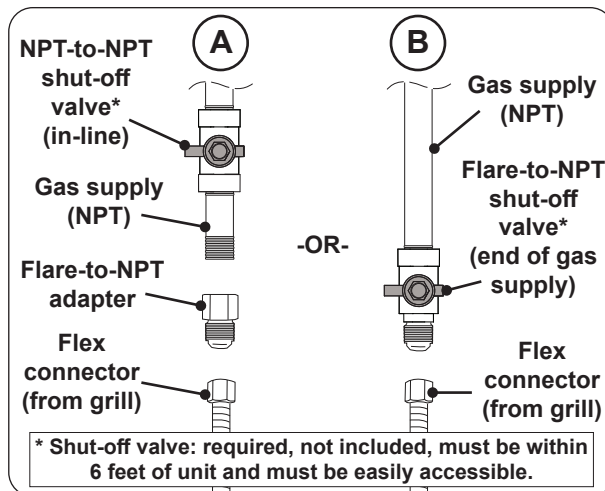

Fig. 26-1 Connecting to a gas line
- Install the supplied flare-to-NPT adapter to the gas supply (NPT) using a pipe joint compound resistant to all gasses (see Fig. 26-1, A). Tighten securely.
- Connect the flex connector to the adapter (see Fig. 26-1, A). Tighten securely.
- Connect the flex connector to the shut-off valve (flare) (see Fig. 26-1, B). Tighten securely.